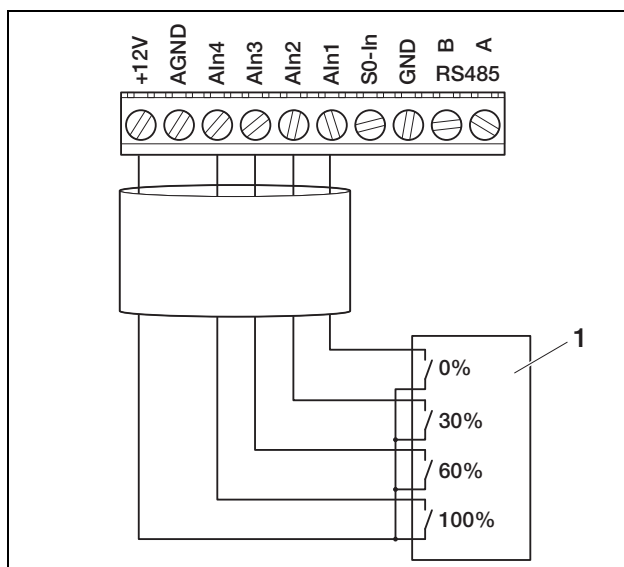

Fig. 41: Connecting the ripple control receiver to the inverter
- Connect the ripple control receiver lines in accordance with the terminal assignment (figure 41 and table 7).